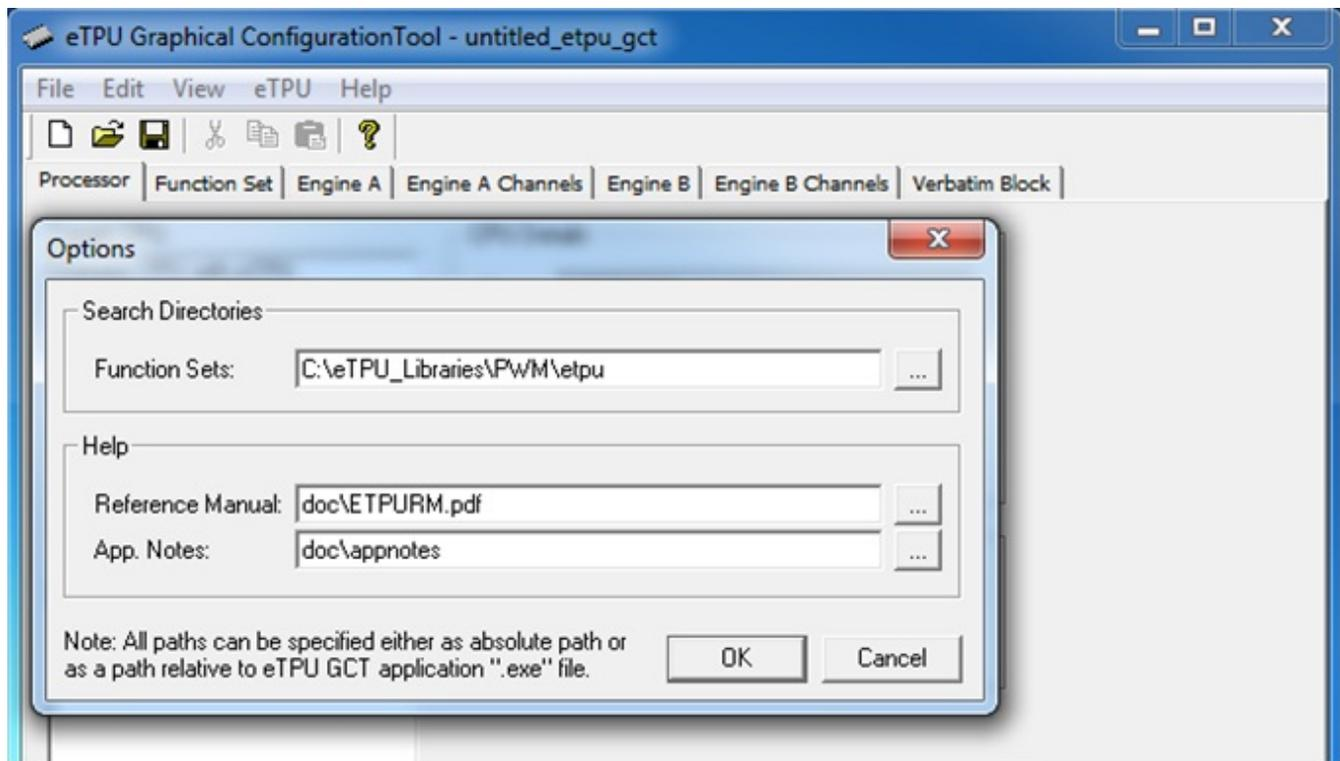

Figure 2. Setting the path to eTPU Files
3. Choose eTPU > Options > Function Sets > <Path of the etpu libraries folder> > OK, to set the path where eTPU libraries were downloaded, according to Generating the eTPU code. See Figure 2.